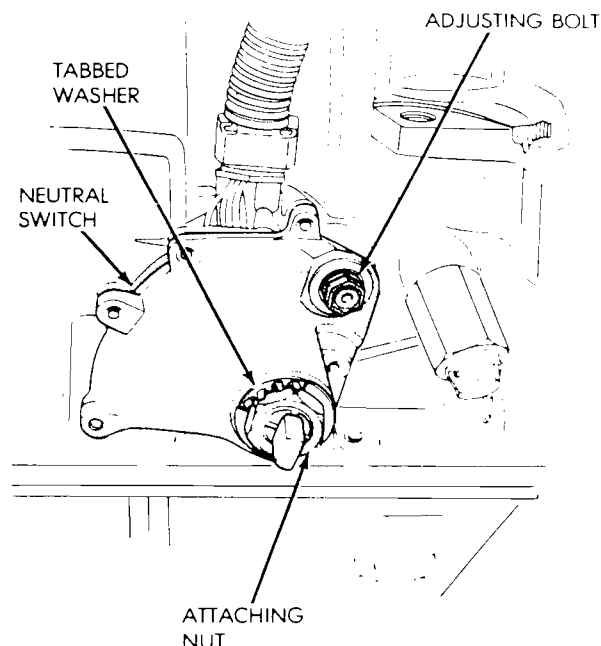

Fig. 4 Neutral Switch Removal/Installation
- (1) Raise vehicle.
- (2) Disconnect switch wire harness connector.
- (3) Pry washer lock tabs upward and remove switch attaching nut and tabbed washer (Fig. 4).
- (4) Remove switch adjusting bolt (Fig. 4).
- (5) Slide switch off manual valve shaft.